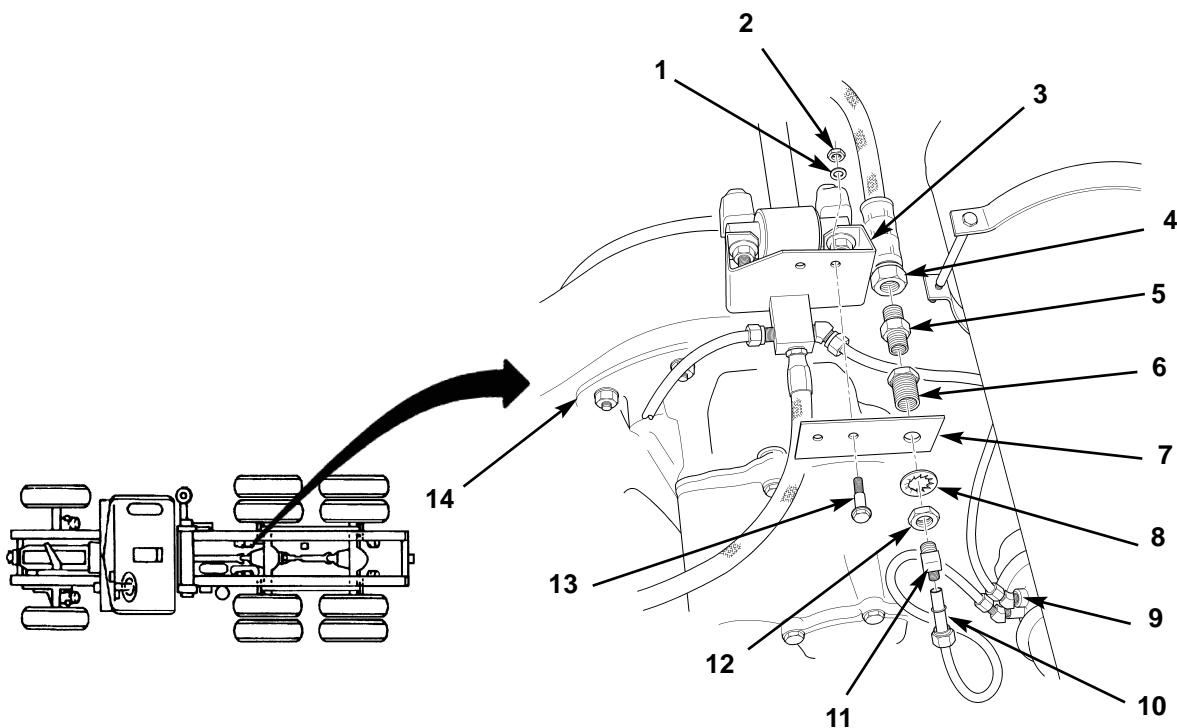

Figure 8. Installing Forward-Rear Axle Air Block.
1. Install forward-rear bulkhead fitting mount (figure 8, item 7) on bracket (figure 8, item 3) at top of forward-rear axle (figure 8, item 14) with two screws (figure 8, item 13), washers (figure 8, item 1), and new locknuts (figure 8, item 2).
2. Install bulkhead fitting (figure 8, item 6) on forward-rear axle bulkhead fitting mount (figure 8, item 7) with new lockwasher (figure 8, item 8) and nut (figure 8, item 12).
3. Install elbow (figure 8, item 11) and adapter (figure 8, item 5) on bulkhead fitting (figure 8, item 6).
4. Connect tube (figure 8, item 10) from left spring brake chamber (figure 8, item 9) to elbow (figure 8, item 11), and connect hose assembly (figure 8, item 4) from left-front bulkhead to adapter (figure 8, item 5).